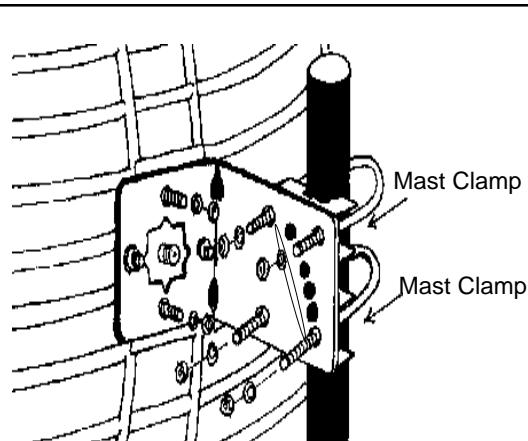
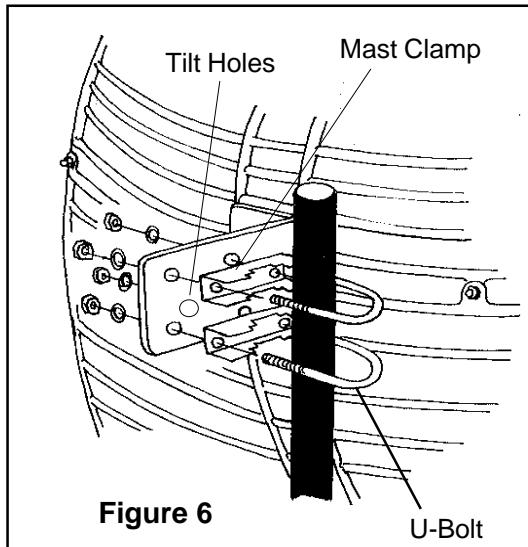

Figure 5
Figure 6
7. Place the 2 mast clamps on the 2 U-bolts. (See Figure 6). Fasten the U-bolts on the "L" bracket with the 4 lockwashers and nuts (See Figure 5).
NOTE: By eliminating 1 mast clamp and U-bolt, the optional fixed tilt holes provide elevation in 10° increments. (Not recommended under high wind conditions.) (See Figure 6.)